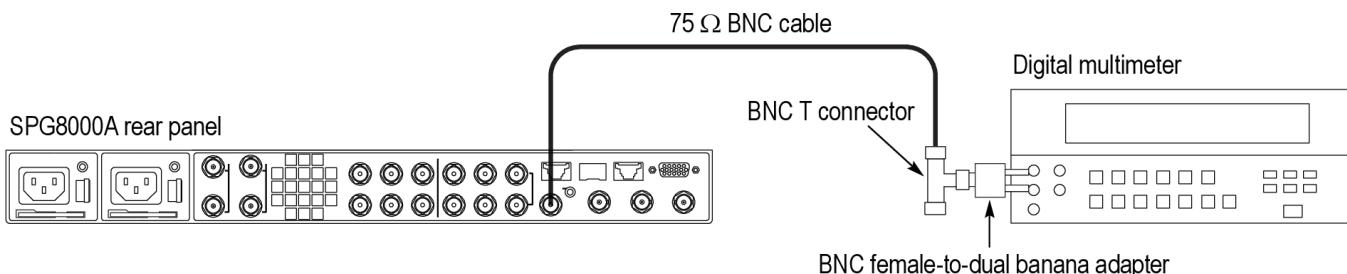

Figure 21: Setup for DC antenna output power voltage test
1. Use the equipment connection from the previous test. (See *Figure 21: Setup for DC antenna output power voltage test* on page 84.)